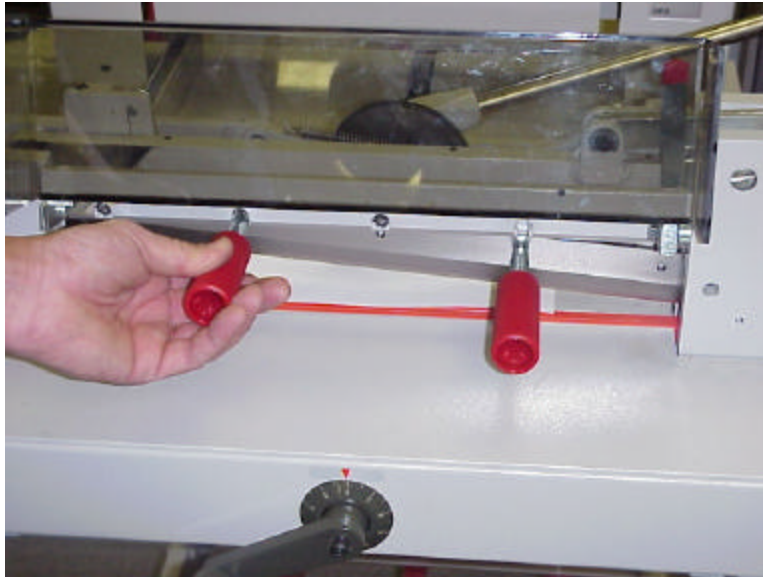

Fig. 5
4. Grasp both Handles firmly and loosen the Handles (turn Counter-Clockwise). It may take 2 or 3 full turns before you feel the Knife start to slide out of the Knife Carrier. Remember **KNIFE IS SHARP!** When the Knife is free from Carrier, move the Knife slightly to the right and remove from the left. See Figure 5.